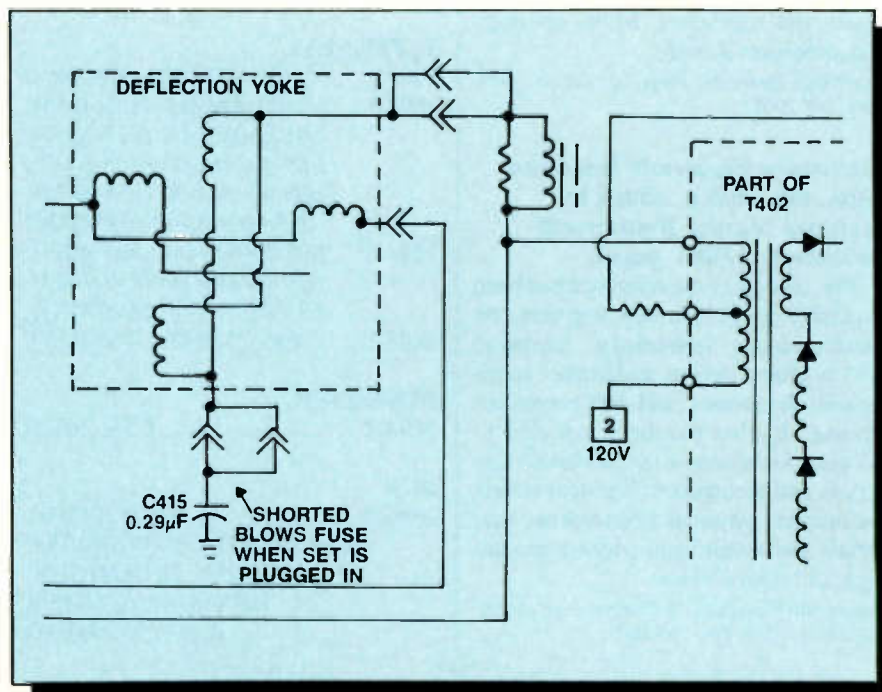

Figure 2. A shorted C45 was blowing fuse F101 whenever the set was plugged in.
pacitor C45 was shorted. (See Figure 2.) The capacitor, a 0.29μF device rated at 200Vdc, had to be specially ordered from RCA. Evidently it is a special high-frequency polycarbonate capacitor.
5. What value of resistance at x in the circuit in Figure 2 will be required for the bridge to be balanced?
A timing chart (shown in Figure 2) helps to depict the relationship between all of the timing signals. If a flaw occurs in the timing sequences, the memory-access portion of the memory operation will have problems. Instead of relying on disk-based diagnostics, the technician could depend on his troubleshooting expertise.
Again looking at Figure 2, the technician can use a multitrace oscilloscope, preferably with a 100MHz bandwidth, to check for proper timing. Multiple problems with memory access suggest that a problem has occurred in either the column-address timing, row-address timing or multiplex timing relationships. The technician generally will find that a faulty delay line, U456, will cause timing problems. Checking for timing problems calls for a combination of traditional troubleshooting methods and an on-board diagnostics aid. This check essentially calls for initiating a memory read or write operation through the ROM diagnostic sequences so the technician can watch the timing sequences and their relationships.
Figure 2. This timing chart shows the relationship between all the timing signals. If a flaw occurs in the timing sequences, the memory-access portion of the memory operation will have problems. Multiple problems with memory access suggest that a problem has occurred in either the column-address timing, row-address timing or multiplex timing relationships.
mand. With this command, the technician may fill a specific range of memory, again using the hexadecimal address, with data. The technician would type F, the address and some string of data. This code would appear as >F1800:0,3FFF. This is a test and would fill 3FFF memory locations with "This is a test," while starting at address 18000. After initiating the debugging commands, a technician may use an oscilloscope to check and compare the operating circuit waveforms with the waveforms shown in Figure 2.